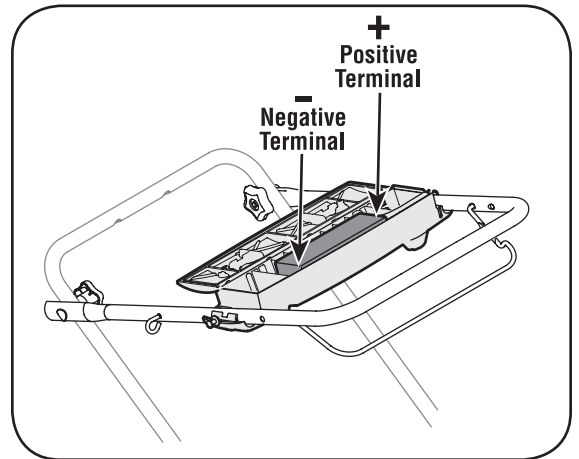

Figure 5-7
**NOTE:** The battery you have may differ slightly from the one shown in Figure 5-7. Refer to the Parts List.
**IMPORTANT:** When replacing battery pack in handle panel, battery pack must be positioned with the positive terminal to the left side and the negative terminal to the right side of panel (Positive terminal is closest to the key switch). See Figure 5-7. Replacing battery pack incorrectly will cause serious damage.